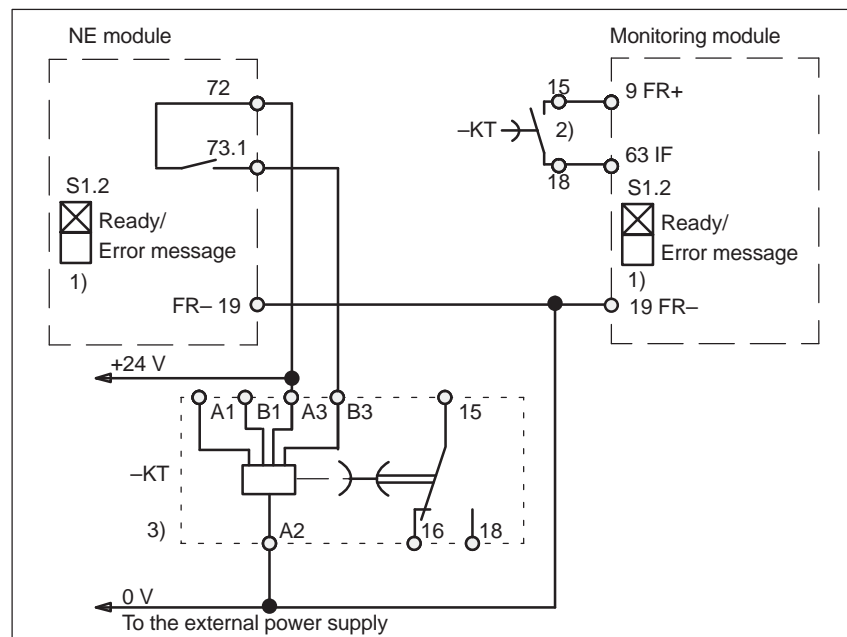

Fig. 8-6 Delayed shutdown, pulse enable
- Delayed shutdown pulse enable —> refer to Fig. 8-6